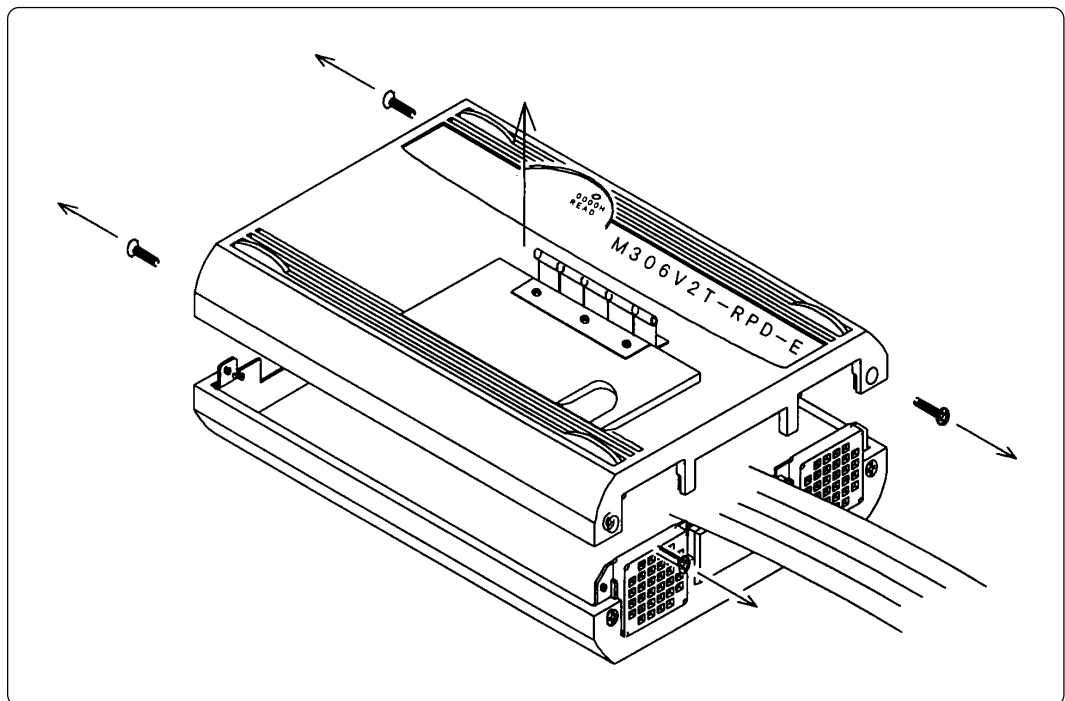

Figure 3.1 Removing the upper cover
- (1) Remove the four screws of both sides of this product and lift off the upper cover. (see Figure 3.1)
- (2) Set the switches following the descriptions below.
- (3) Replace the upper cover and secure the four screws.